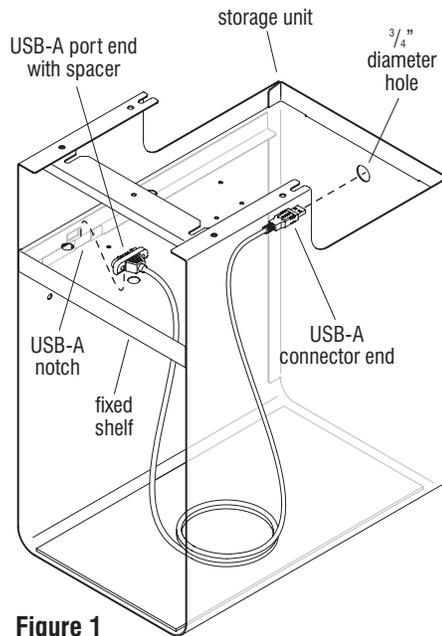

Figure 1
3. From inside the Bobbr storage unit, route the USB-A connector end through and out the 3/4" diameter hole on the back of the storage unit (Figure 1).
4. Route the USB-A port end with spacer down over the corresponding USB-A notch on the underside of the fixed shelf, inside the storage unit (Figure 1 & Detail C).